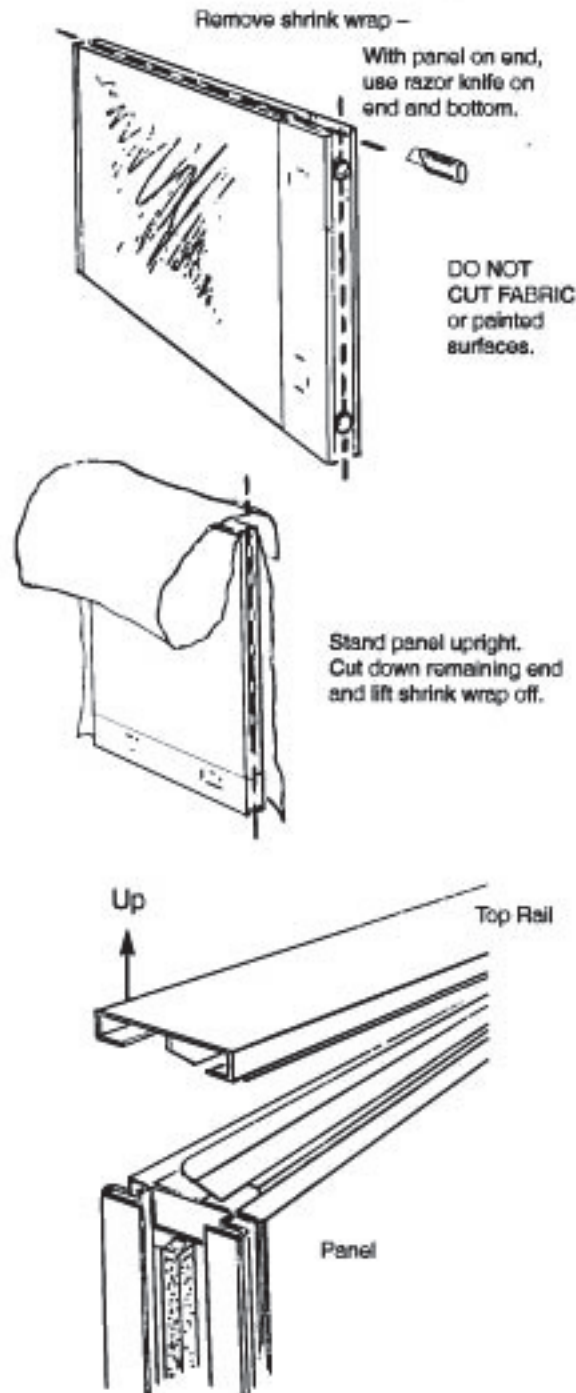

Fig. 1
4. Remove panels from packing with clean hands, and place into position. Remove "Top Rail" by gripping one end and gently wiggling up and off while progressing the length of rail. USE CAUTION not to bend rail while removing. See Fig. 1.